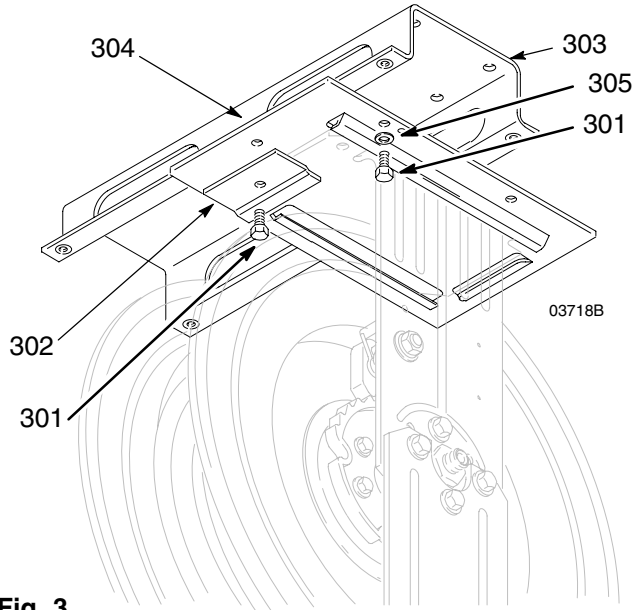

Fig. 3
1. Install the mounting frame (303) and base plate (304) as shown in Fig. 3.
3. Slide the hose reel onto the base plate (304) and install the hold-down plate (302) and capscrew (301). Tighten the screw firmly. See Fig. 3.
**NOTE:** The reel base is slotted (A) to allow two screws to be started before mounting the reel to the support. See Fig. 3.